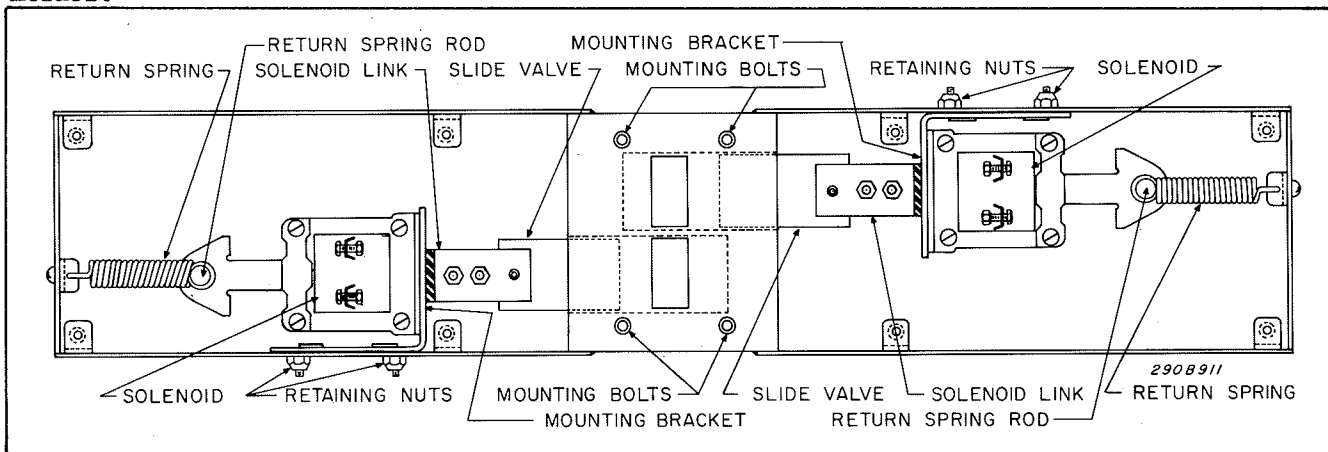

Figure 5-14. Slide Valve Assembly Interior View.
See Figure 5-14. Scrape the filler material from the mounting holes in Solenoid Assembly and remove the mounting bolts.
K. Solenoid Replacement (Model 1003 only - see figure 5-14)